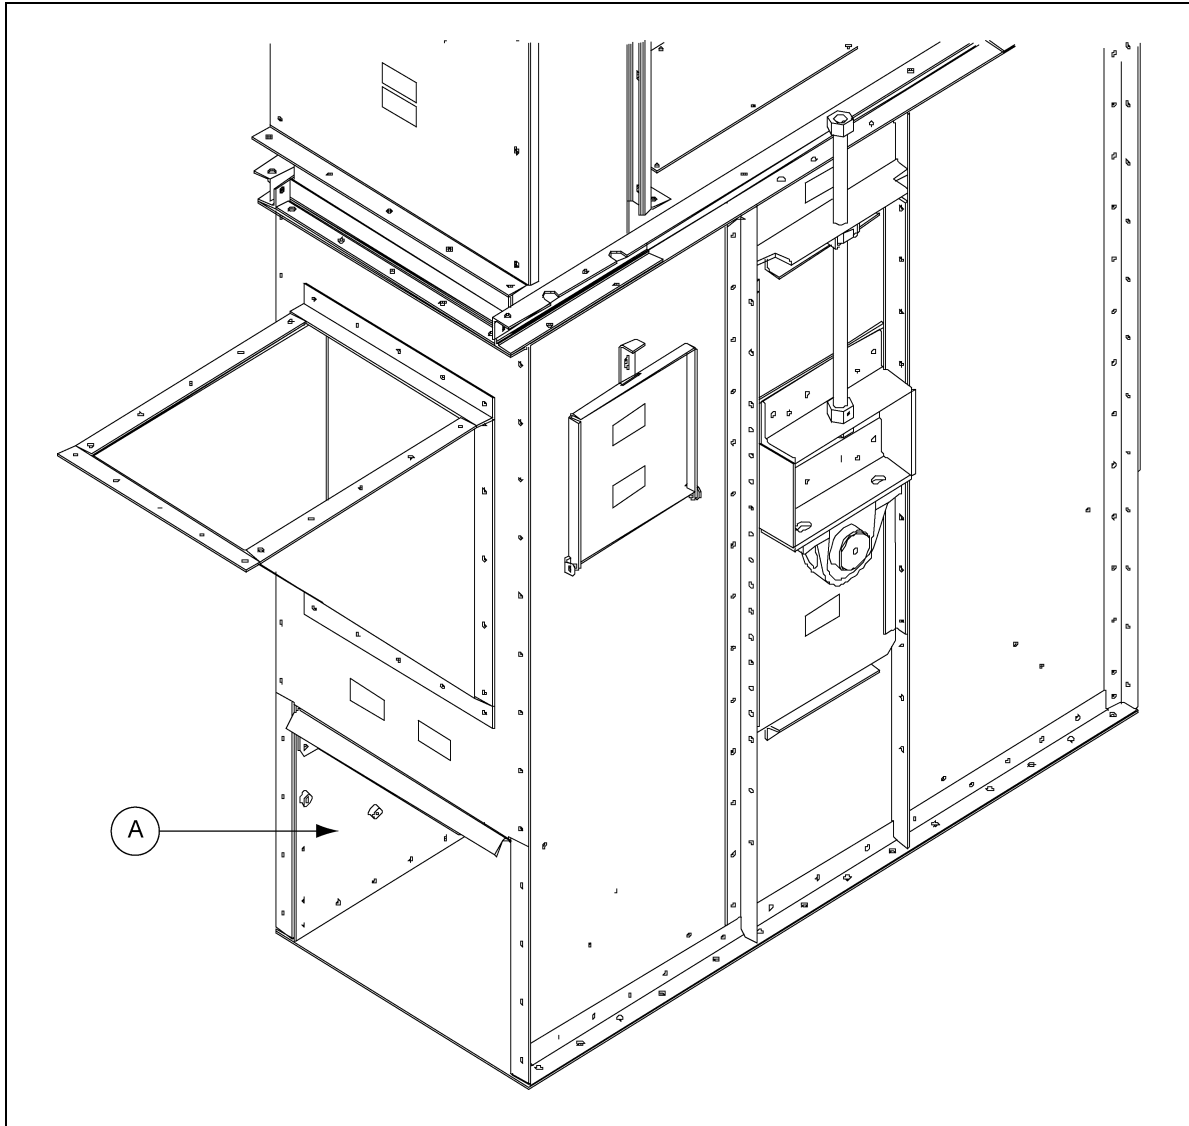

Figure 12C
5. At the boot of the elevator, un-bolt and open the clean-out doors. *(See Figure 12C.)*